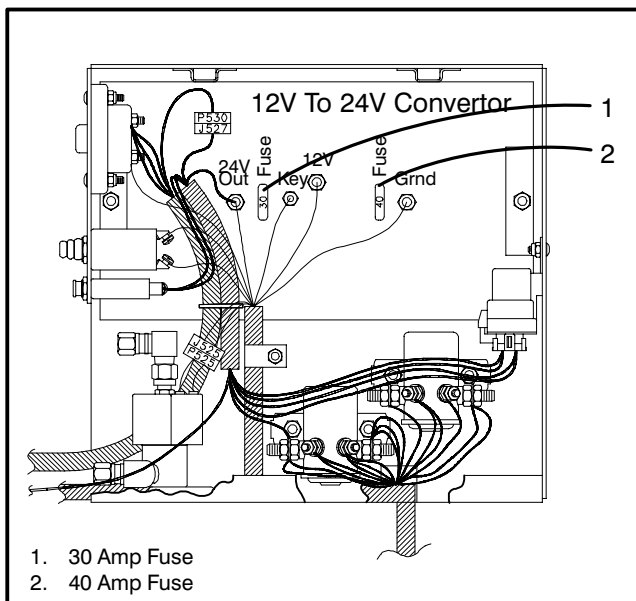

Figure 1-68
1. Inspect the converter for blown fuses and replace if necessary. Refer to Figure 1-68.